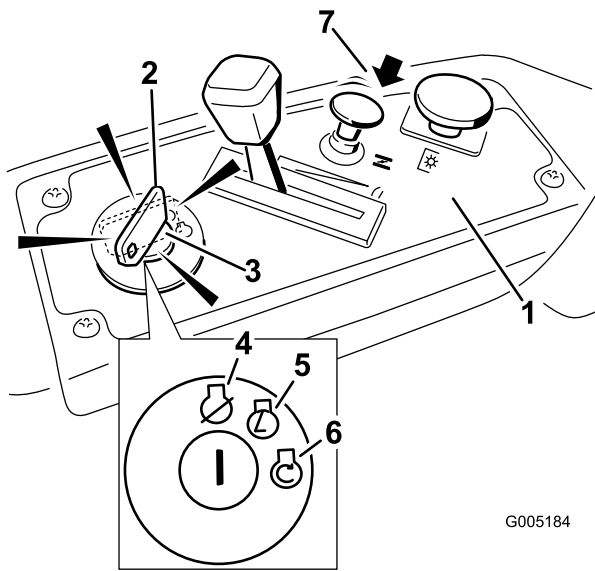

Figure 10
3. Move the Choke switch to open before starting a cold engine (Figure 10).
4. Turn the ignition key to Start to energize the starter. When the engine starts, release the key (Figure 10).
5. After the engine starts, move the close the Choke switch (Figure 10). If the engine stalls or hesitates, open the Choke switch for a few seconds. Then close the Choke switch and move the throttle lever to the desired setting. Repeat this as required.
2. Move the throttle lever to between Fast and half throttle (Figure 10).